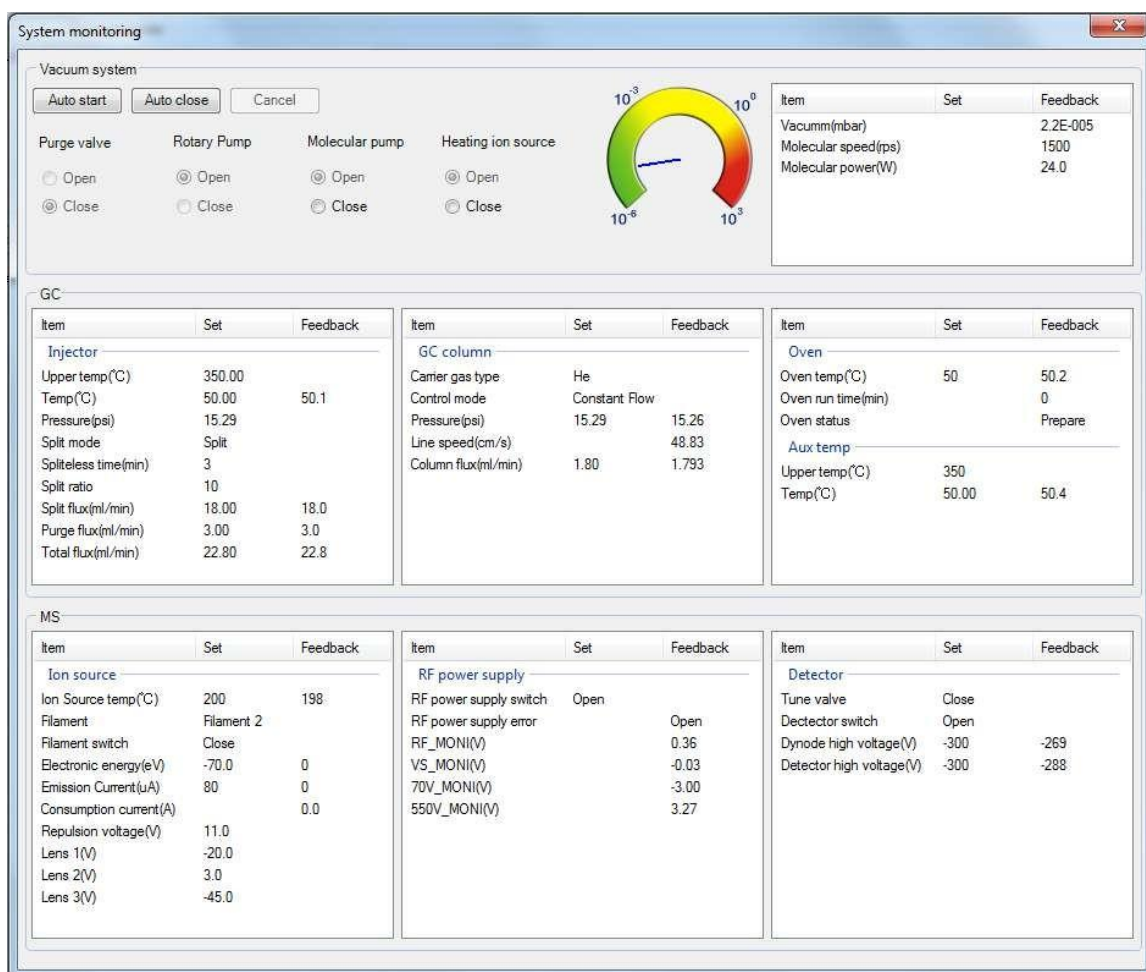

Figure 3-2 System Monitoring
(2) A dialog box [System monitoring] will be displayed on the screen, as shown in Figure 3-2.